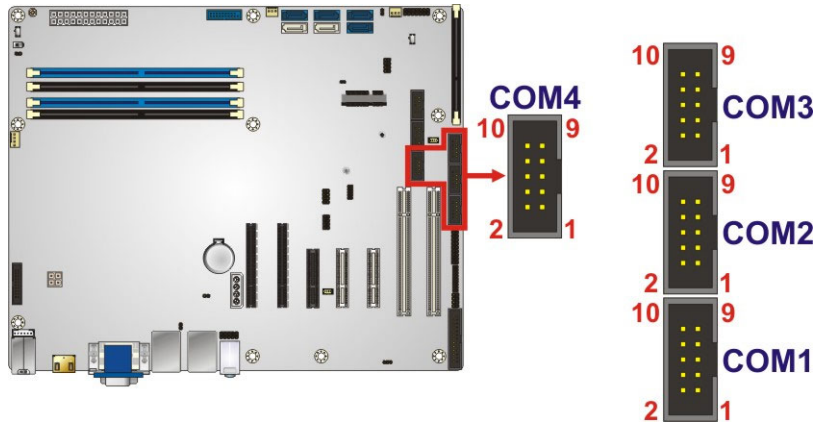

Figure 3-26: RS-232 Serial Port Connector Location
- CN Location:** See **Figure 3-26**